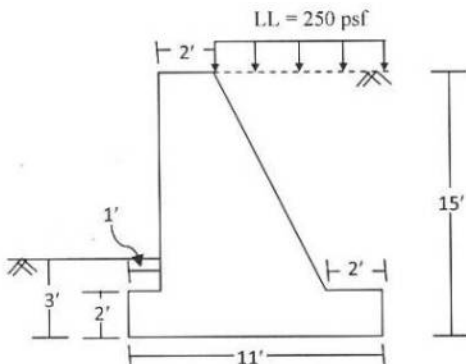

Fig. 5
8. A section of a gravity retaining wall as shown in Fig. 5 was made to support the soil behind the wall and the surcharge on the ground surface. Check the external stability of the section against sliding and overturning. Also check the soil pressure under the base. [Given, $\gamma_s = 120$ pcf, $\phi = 30^\circ$, $f_{base} = 0.5$, Allowable bearing pressure = 4 tsf.]